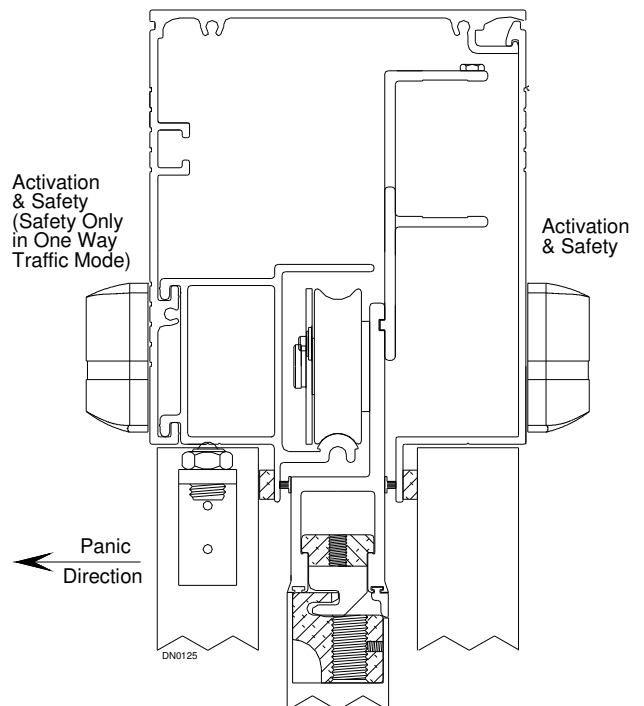

Figure 45
3. Use screws provided inside sensor (in screw holes) to mount sensor to header (See Figure 45).